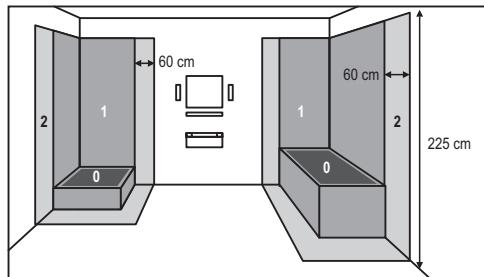

Figure 3. • 3.ábra • 3.obrazok • fig. 3. • 3.skica • 3.obrazek • Silka 3.
22. It is **STRICTLY PROHIBITED** to install or use the appliance in zones 0 and 1 of premises containing bathtubs or showers (see Figure 3)!
2. It is **STRICTLY PROHIBITED** to install or use the appliance in zones 0 and 1 of premises containing bathtubs or showers (**see Figure 3.**).